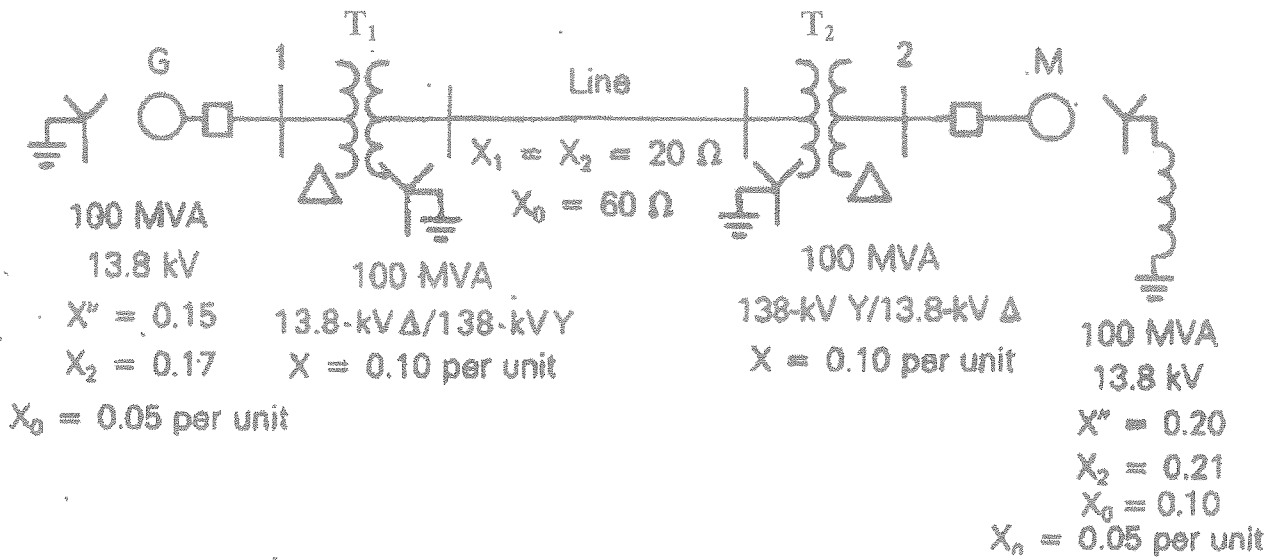

Figure Q1
b) A single-line diagram of a power system is shown in Figure Q1, where positive, negative and zero-sequence reactances are given. The neutrals of the generator and  $\Delta$ -Y transformers are solidly grounded. The motor neutral is grounded through a reactance  $X_n=0.05$  per-unit on the motor base. Assume the zero sequence reactance of the Y- $\Delta$  transformers is the same as leakage reactance. Ignore the pre-fault load current and  $\Delta$ -Y transformer phase shift.